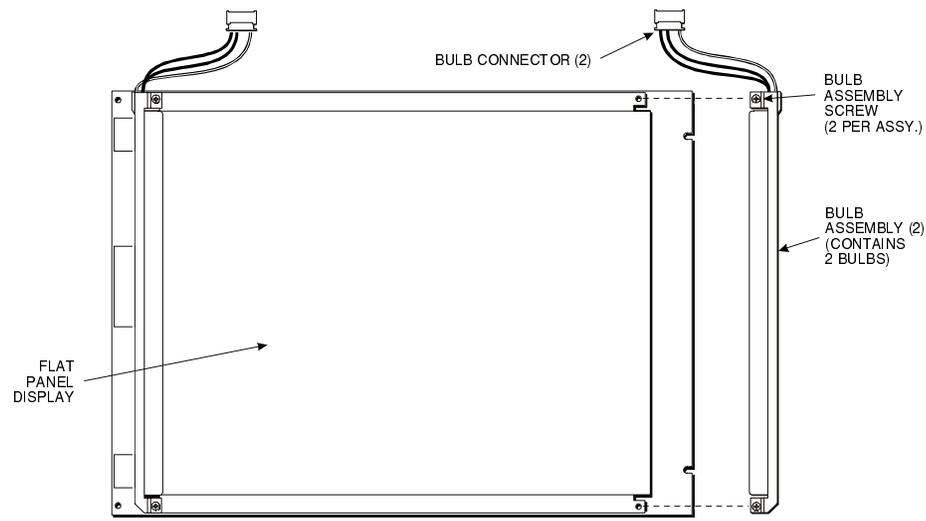

Figure D-4. Model #KCT10276BSTT - Rear View
- Referring to Figure D-4, unscrew the two screws on the top and bottom of the bulb assembly, and remove.